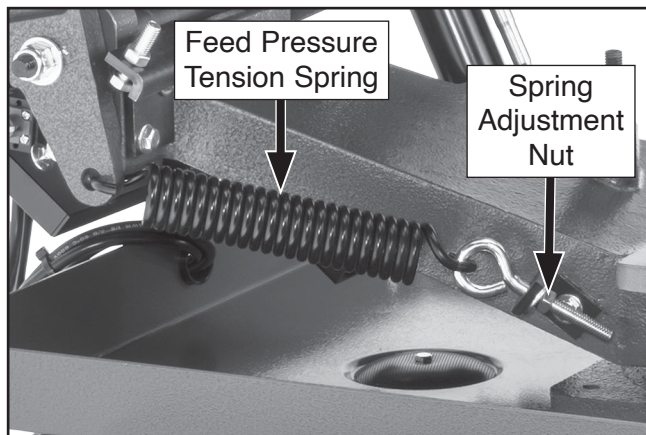

Figure 48. Spring adjustment components.
- Adjust nut shown in **Figure 48** to adjust feed pressure tension spring. Nut should be tight enough to remove play but not enough to apply tension to spring.